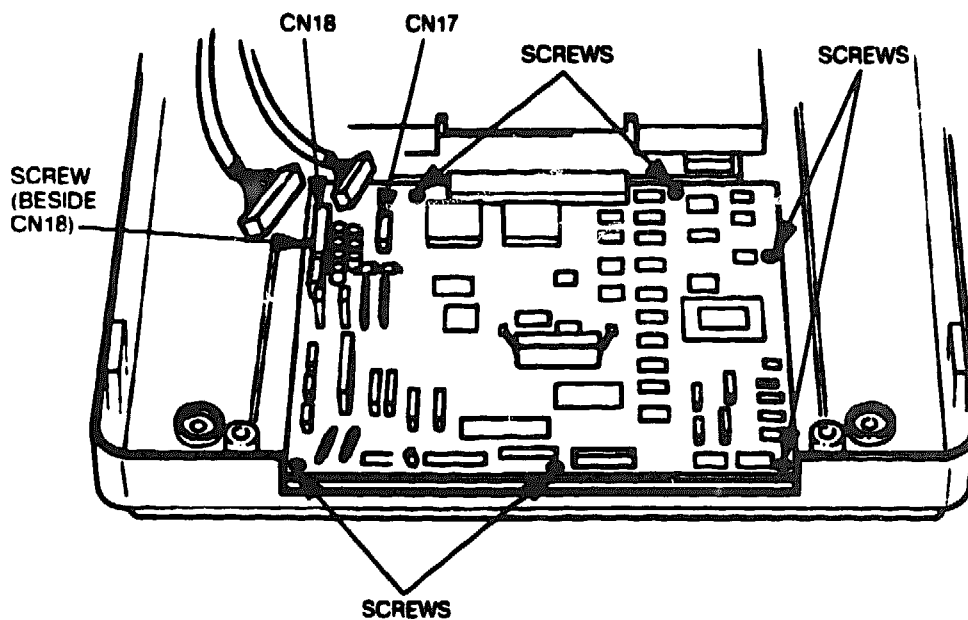

Figure 6-74 G8CRJ Connectors CN17 and CN18
4. Unplug connectors CN17 and CN18 on the G8CRJ board (see Figure 6-74).
5. Remove the seven screws shown in Figure 6-74 and remove the G8CRJ board from the printer base.